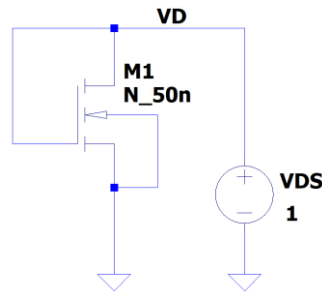

Figure 2.5 Diode connected NMOS transistor
A final note regarding the plot. This plot is more useful for developing analog models because we can determine the output impedance from this figure. However, for a digital model it gives an idea how current behaves in DC when we try to compare the DC characteristics of the inverter later on. There are different ways to plot and extract better information. For example, we can simulate a *diode connected NMOS transistor* where the V_{GS} and V_{DS} are shorted together (here, $V_{GS} = V_{DS}$). Figure 2.5 shows this.
- c. **Go ahead and rotate the transistor twice (Ctrl+R) then flip or mirror it once (Ctrl+E).** It should look like the one in Figure 2.5.
- e. Do not forget to rename the voltage sources with the names in Figure 2.5.